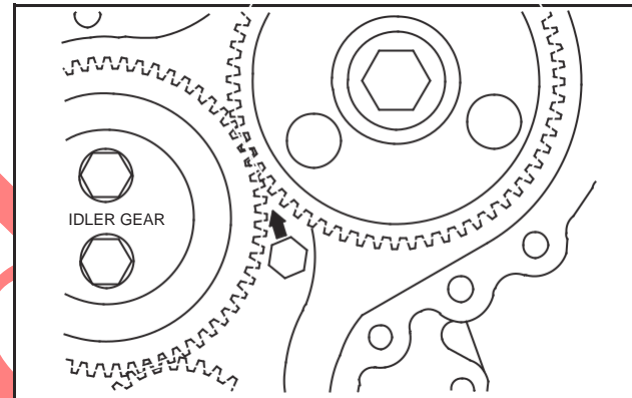

Fig. 12 – Installing Oil Nozzle
3. When re-installing oil nozzle, oil hole must be positioned at 45° angle, pointing towards idler gear, Fig. 12.